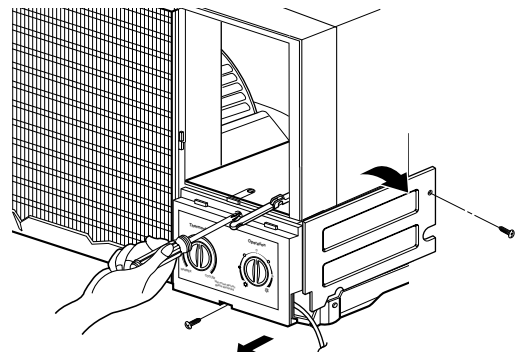

Figure 3
8. Remove the 2 screws which fasten the control box.(See Figure 3)
10. Re-install the components by referring to the removal procedure, above. (See Figure 3)